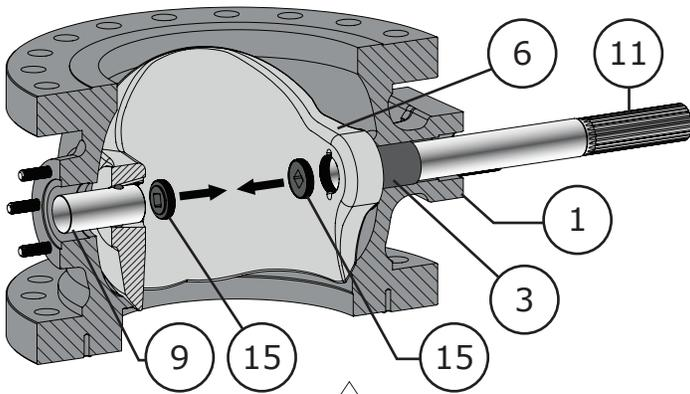

Figure 23 16 Inch Shaft Retainer Removal
- 3 Remove the shaft retainers (Key 15). Refer to Figure 23.